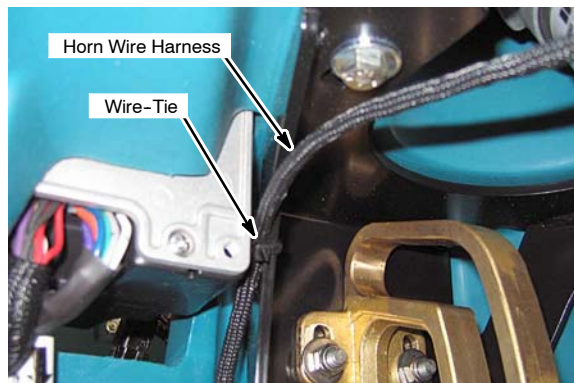

Fig. 49
3. Secure the horn wire harness with wire-tie as shown (Figure 49).